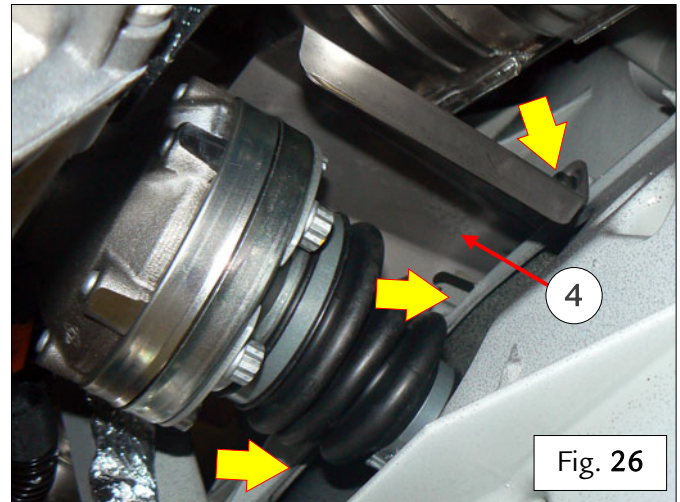

Fig. 26
- Fit the LH heat shield (4) protecting the axle shaft and fasten by tightening the three screws indicated to a torque of **9 Nm** class B – Fig. 26.